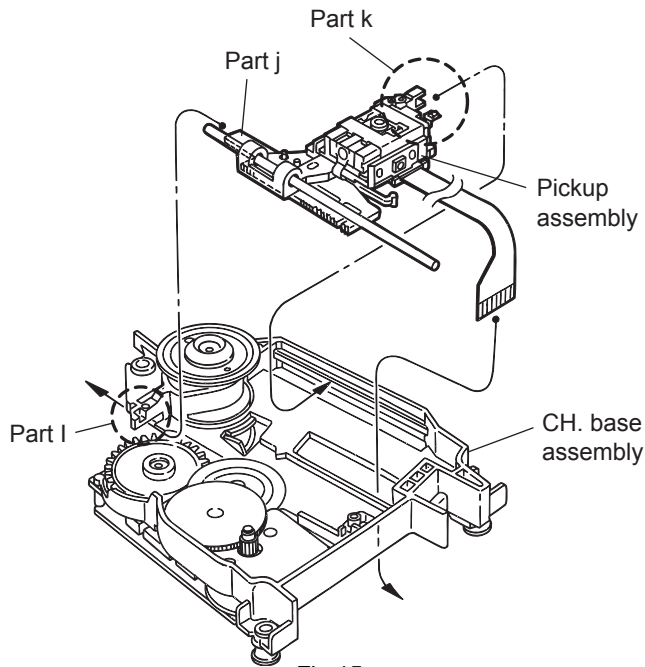

Fig.15
2.3.5 Reinstalling the Pickup Assembly (Refer to Figs. 15 and 16.)